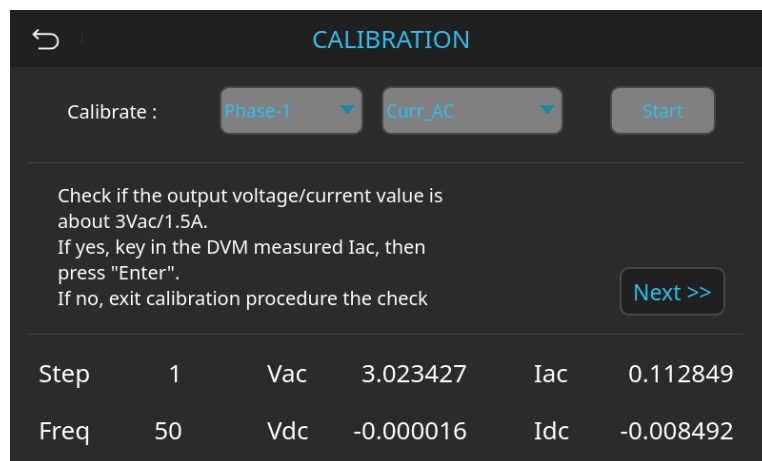

Figure 8-22 AC Output Current Calibration Procedure – Output at 3Vac
The user should use a Digital Current Ammeter (DCA) or a Power Analyzer to measure the AC output current (I_{ac}) of the regenerative power system. At this stage, the output voltage is approximately 3Vac (as shown in Figure 8-22), and the reading should be taken in amperes (A). After measurement, enter the value into the DVM input field on the screen.